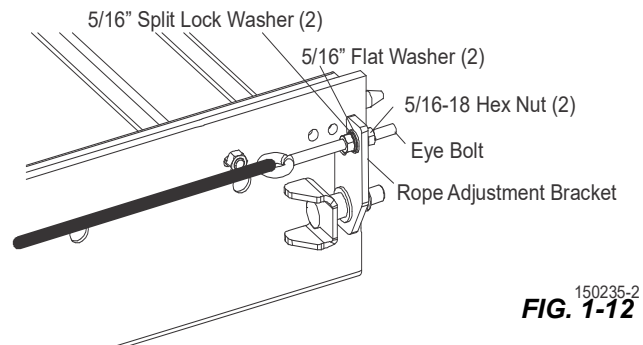

FIG. 1-12
5. Install the eye bolt to the feed rope adjustment bracket and secure with the provided fasteners. See Fig. 1-12.